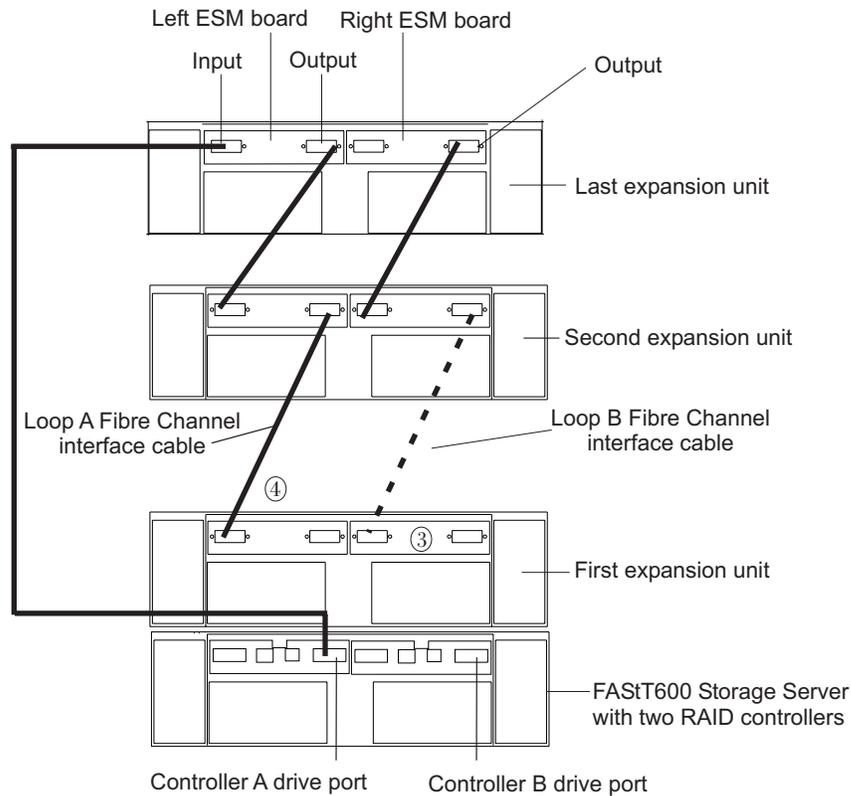

Figure 61. Disconnect the remaining fibre channel cables from the first ESM in the disconnected drive loop
- a. Disconnect any fibre channel cables from the first ESM (marked 3 in Figure 61 on page 89) that you will replace in the disconnected drive loop. Leave in place the fibre channel cables connected to the other ESMs in the disconnected drive loop. In Figure 61 on page 89, the cable to be removed is shown with dashed lines and marked 2.
- b. Replace the disconnected FASTT EXP700 ESM (marked 3 in Figure 61) with one of the upgrade ESMs you received in the FASTT EXP700 Models 1RU/1RX Switched-ESM Option Upgrade Kit. Follow the steps for replacing an ESM in “Replacing a failed hot-swap ESM” on page 68.
11. Repeat steps 5 through 9 to upgrade the ESMs in the second drive loop. Begin by disconnecting the fibre channel cable that connects the left-hand storage server controller drive port to the first storage expansion unit (marked 4 in Figure 61 on page 89) . You will reconnect this cable only after you have replaced all the ESMs to be upgraded in the second drive loop.